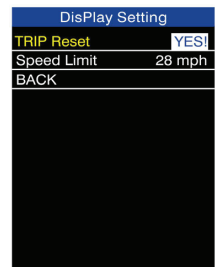

Figure 3
4. Press the [-] button to change NO to YES (Figure 3). Press the [i] button to confirm, and the trip meter will be cleared.